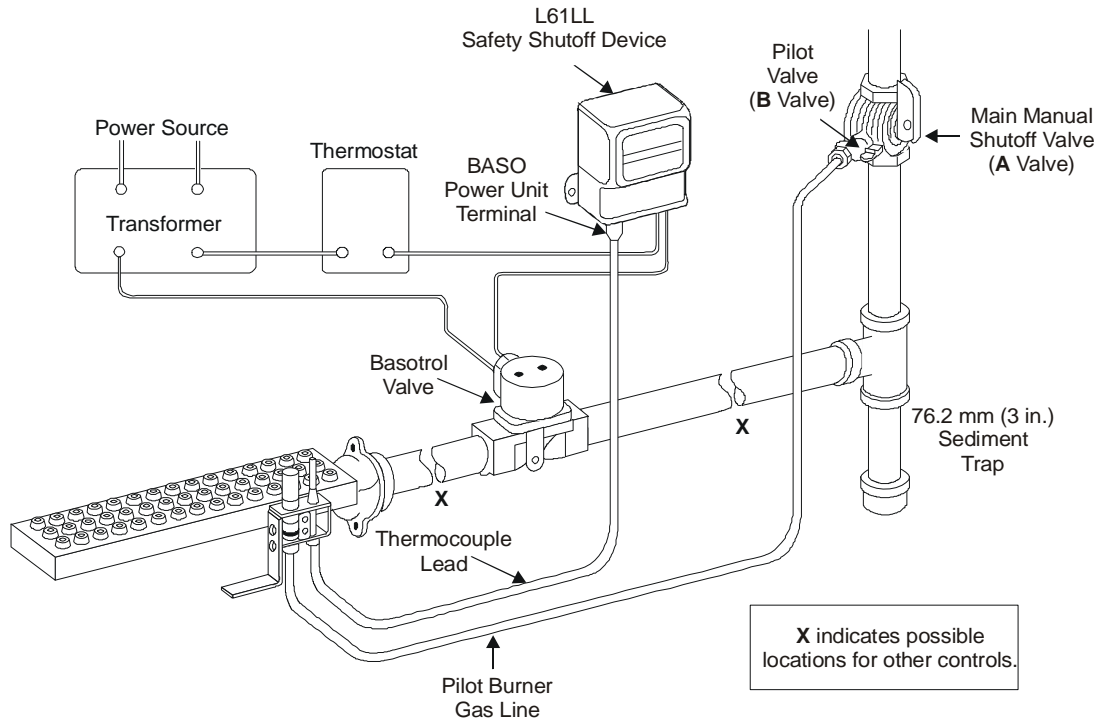

Figure 2: Typical L61LL-1 Installation
4. Close the main manual shutoff valve (**A** valve) and the pilot valve (**B** valve [see Figure 2]) and wait at least five minutes for unburned gas to escape from the appliance.